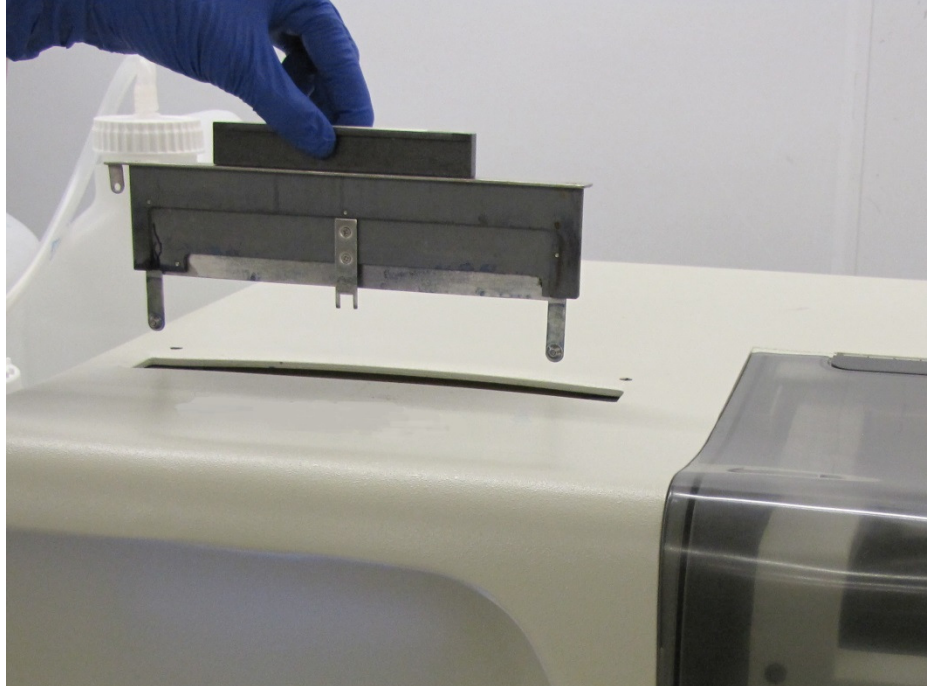

Figure 7-3 Gel and Gel Holder Above Stainer Chamber
2. To attach the gel to the gel holder, place the round hole in the mylar gel on the left pin of the holder, the obround hole in the mylar gel on the right pin of the holder, and the **center of the gel under the prongs on the holder** (Figure 7-3).